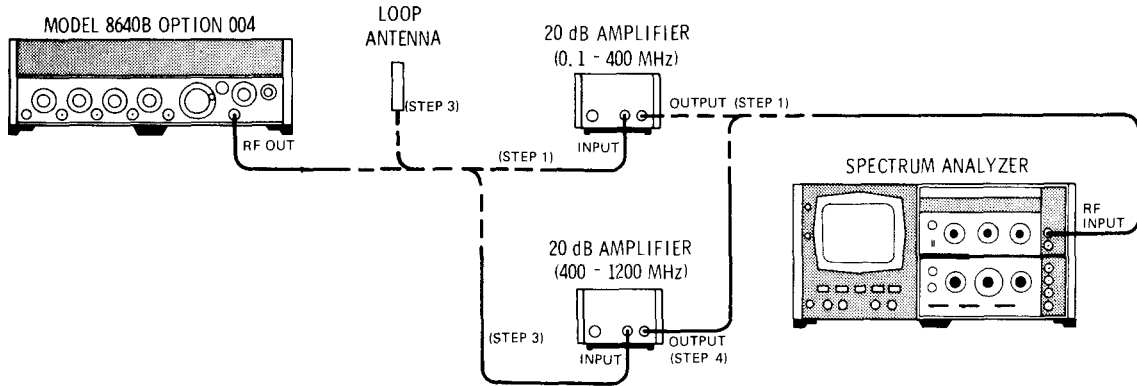

Figure 4-15. Output Leakage Test Setup
1. Connect equipment as shown in Figure 4-15 (with Signal Generator connected to spectrum analyzer through 0.5-400 MHz amplifier) after setting Signal Generator's controls as follows: